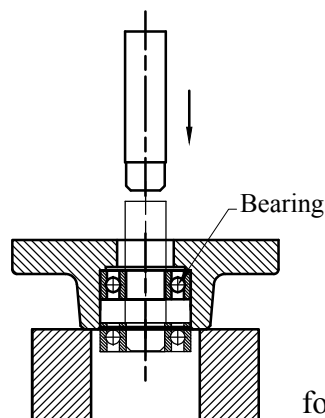

Fig. 8
7. Use an arbor press to press out the air motor bearings. Refer to fig. 8.